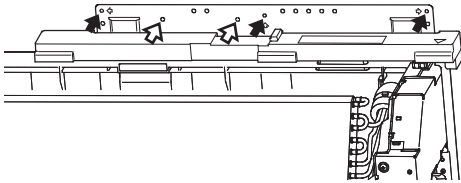

Fig. 6
4) Fix the installation plate with screws ③ at 3 points. (Fig. 6)